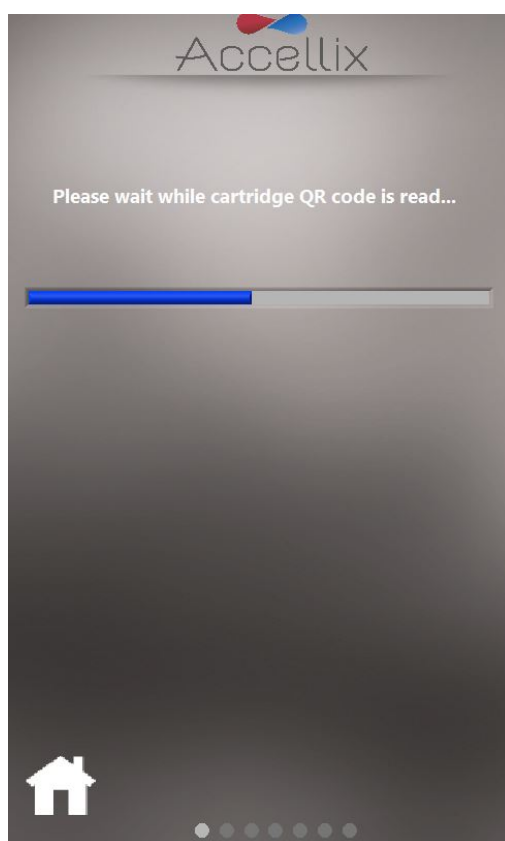

Figure 28: Reading Cartridge QR Code screen
6. The screen instructs the operator to wait while the instrument reads and registers the information contained in the QR code on the cartridge (Figure 28).